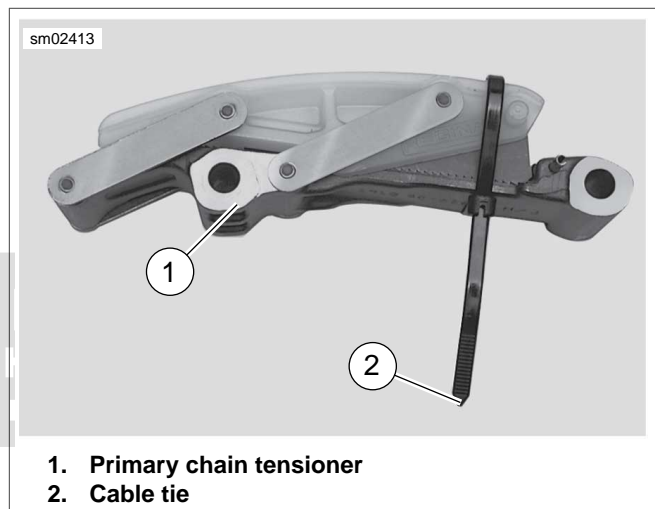
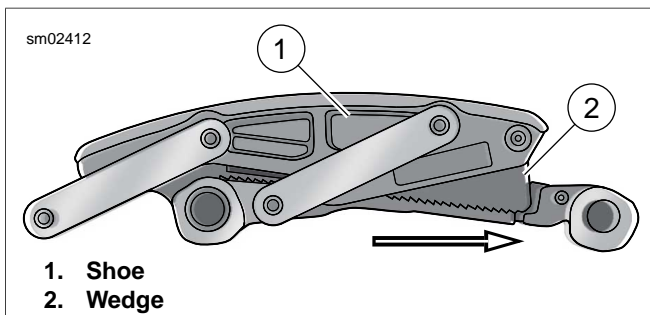

Figure 5-17. Securing Primary Chain Tensioner
Figure 5-16. Primary Chain Tensioner
14. See Figure 5-16. Slide wedge (2) of primary chain tensioner in direction of arrow until all travel is removed.
15. Push shoe (1) down until it contacts wedge. Keep tension on shoe so wedge stays in place.
16. See Figure 5-17. Insert cable tie (2) as shown to hold wedge in place. Make sure end of cable tie is located below primary chain tensioner. If cable tie is installed this way, it will hang below primary cover gasket surface and serve as a reminder to remove cable tie before installing primary cover.